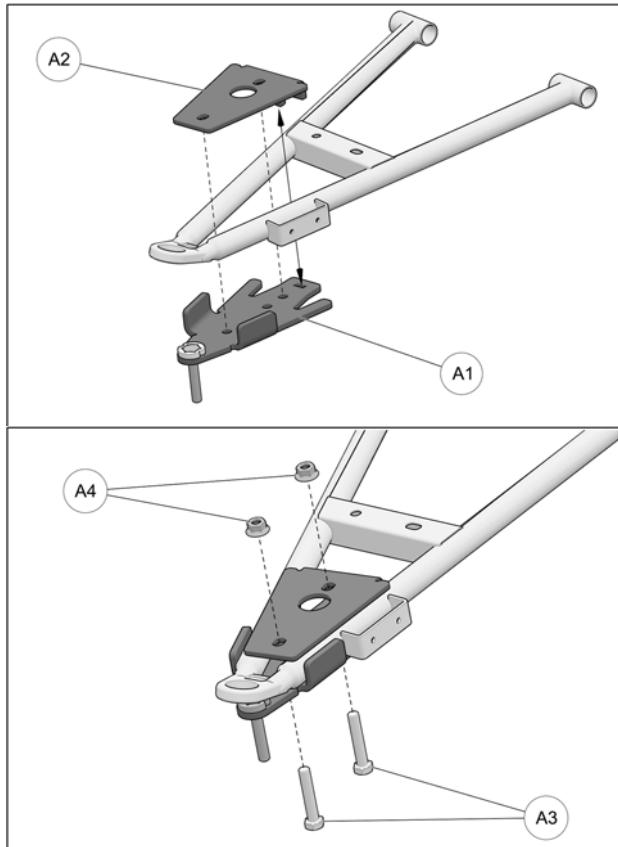

Fig. 16
6. Position bottom part of anchor bracket (**A1**) assembly under front lower suspension arm, as shown in the figure below. Position bracket cover (**A2**) over suspension arm and align holes in cover and bottom part. Insert M10x55mm bolts (**A3**) through top and secure the two parts together with nuts (**A4**) provided. Tighten assembly to 50 N·m [37 lb·ft] of torque. Refer to Fig. 16